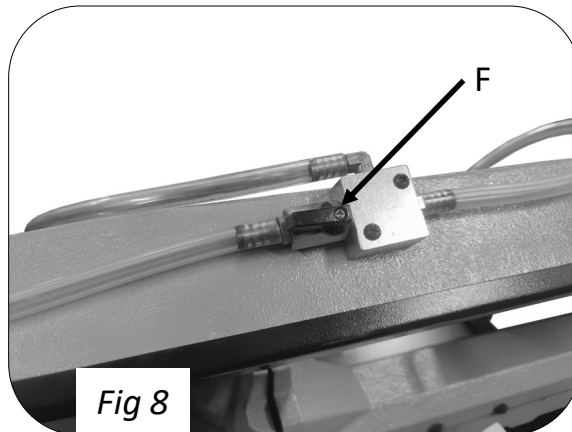

Fig 8
The coolant is pumped from the coolant tank by the coolant pump (J) and fed through a clear plastic tube to a valve/tap (F) situated on the top edge of the bow casting (see Fig. 8). When the valve is opened the coolant is fed through two separate pipes which deliver the coolant directly to each blade guide. The coolant then drops onto the machine bed where it flows to the lower level and returns to the coolant tank through the coolant inlet mesh situated above the coolant tank ready for recirculation.